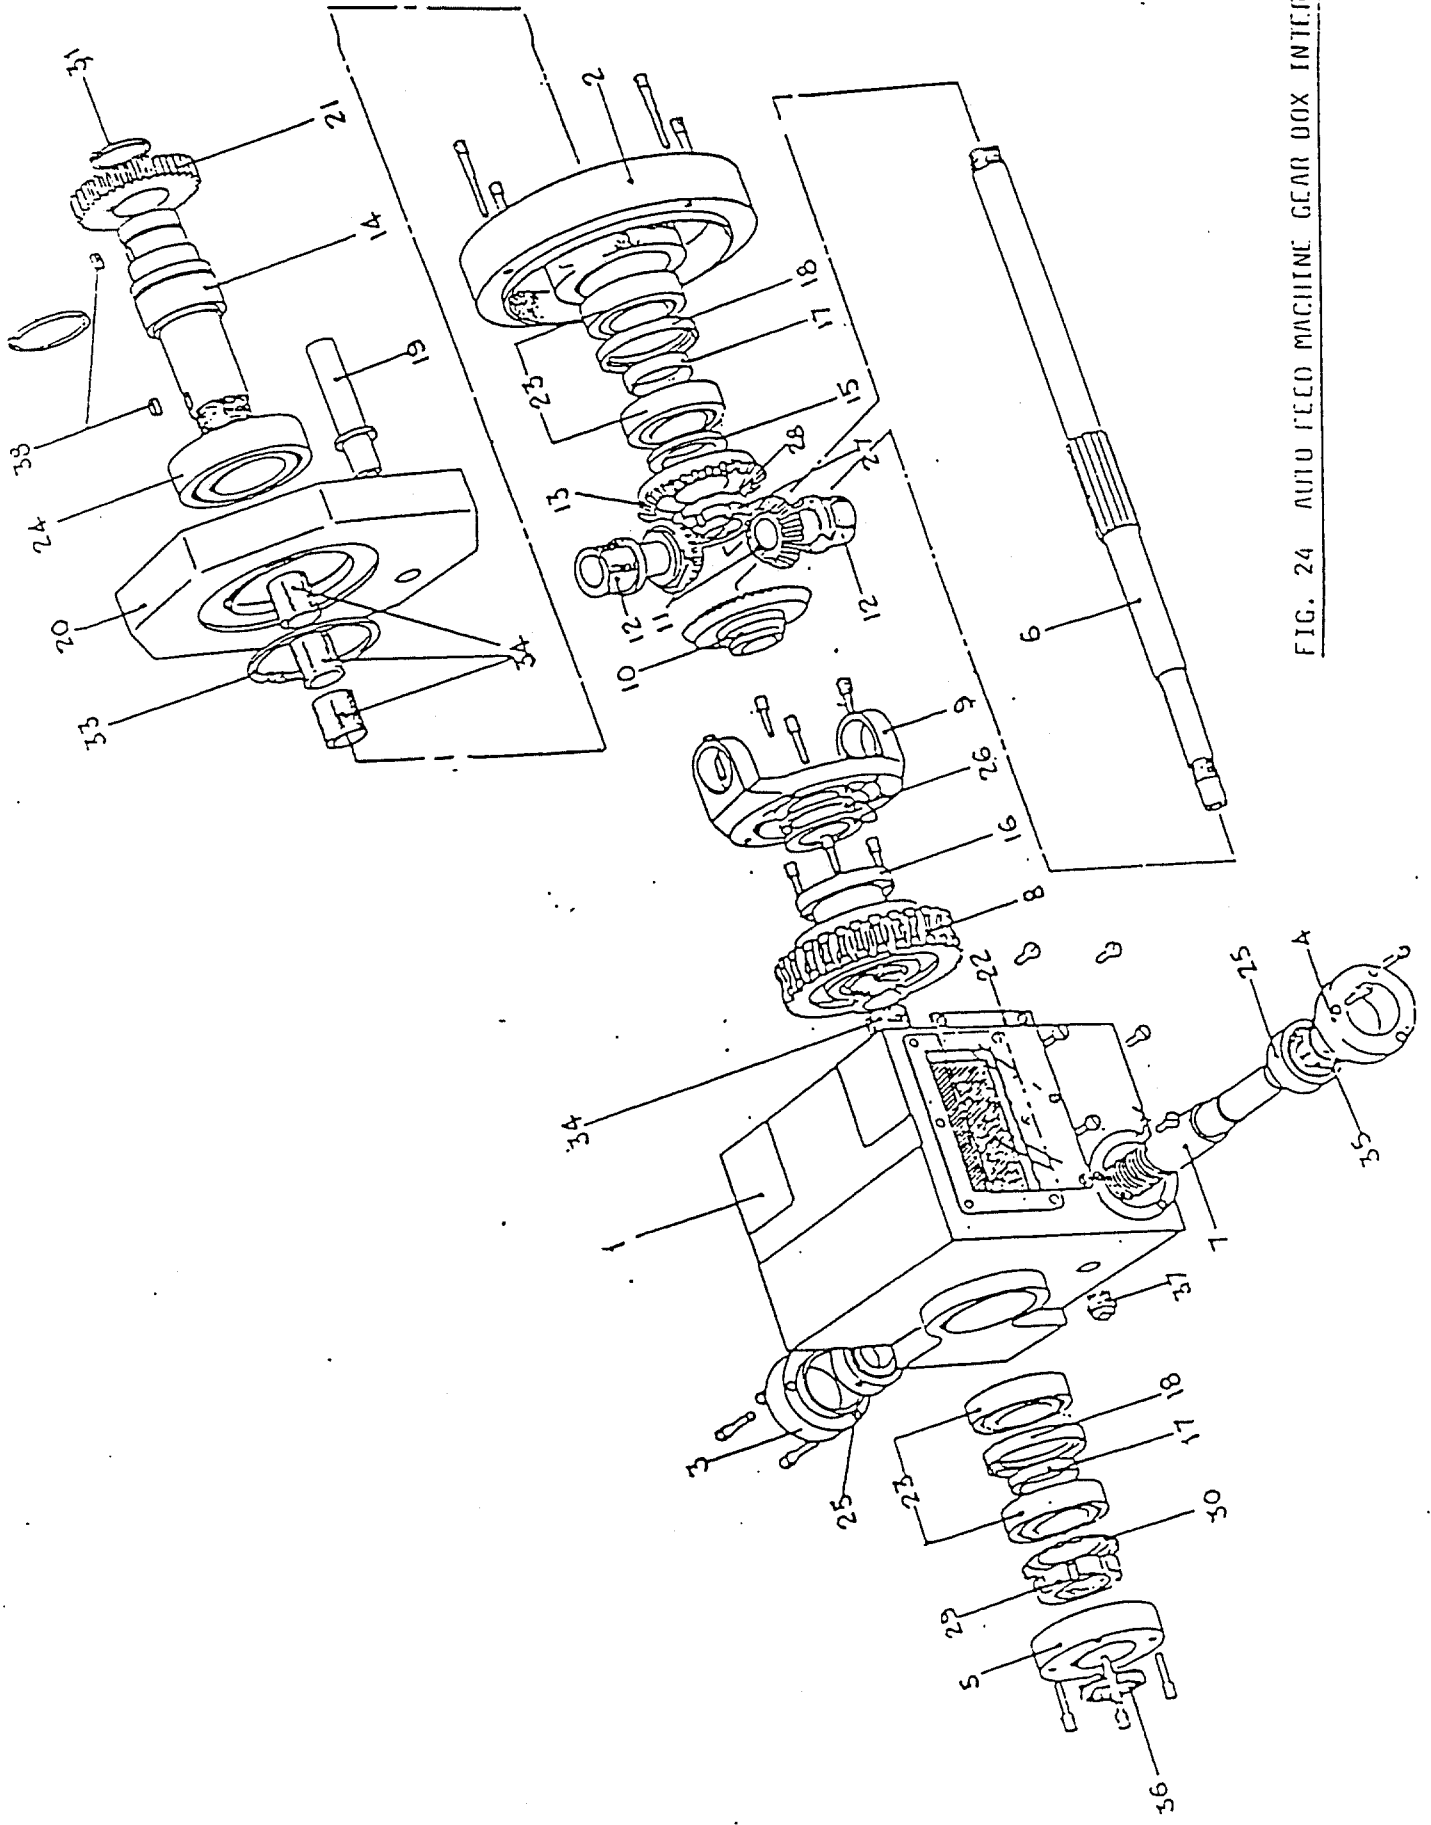

FIG. 24 AUTO FEED MACHINE GEAR BOX INTERNAL
8.9 AUTO FEED MACHINE INTERNAL GEAR BOX (See Fig. 24)